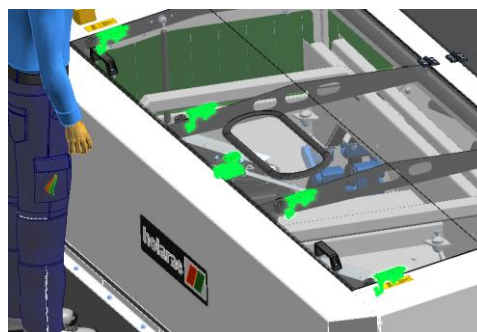

Figure 3. Lock and fasteners
4. Position the locks so that the key turns easily. In addition, adjust the fasteners so that they can be closed with minimal force (Figure 3).